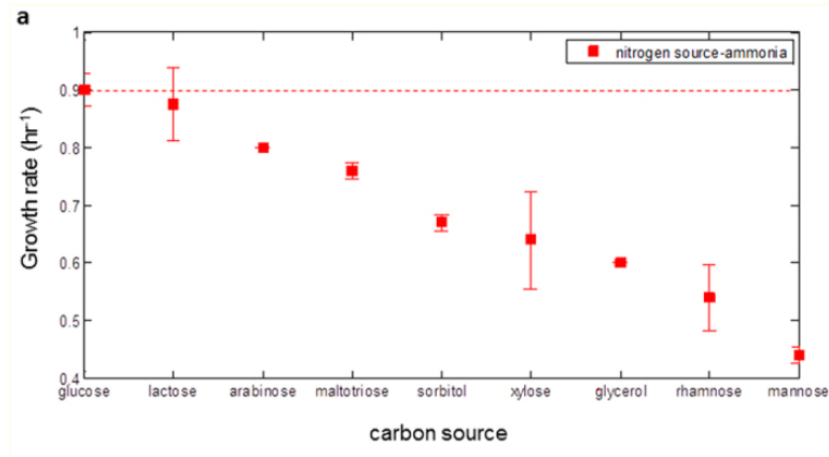

Figure 1: Plot of E. coli growth under different carbon sources, from [1].
- **Ecoli Growth rate:** Under Glucose the Ecoli multiplies to twice (2x) its count every 20minutes, and when under the influence of only Lactose the growth is dropped to 1.8 times (figure 1) the count every 20 minutes [1]. The Ecoli has a 2 iteration lag period before swapping to metabolise lactose, this is to simulate the lag phase of the biological Ecoli.